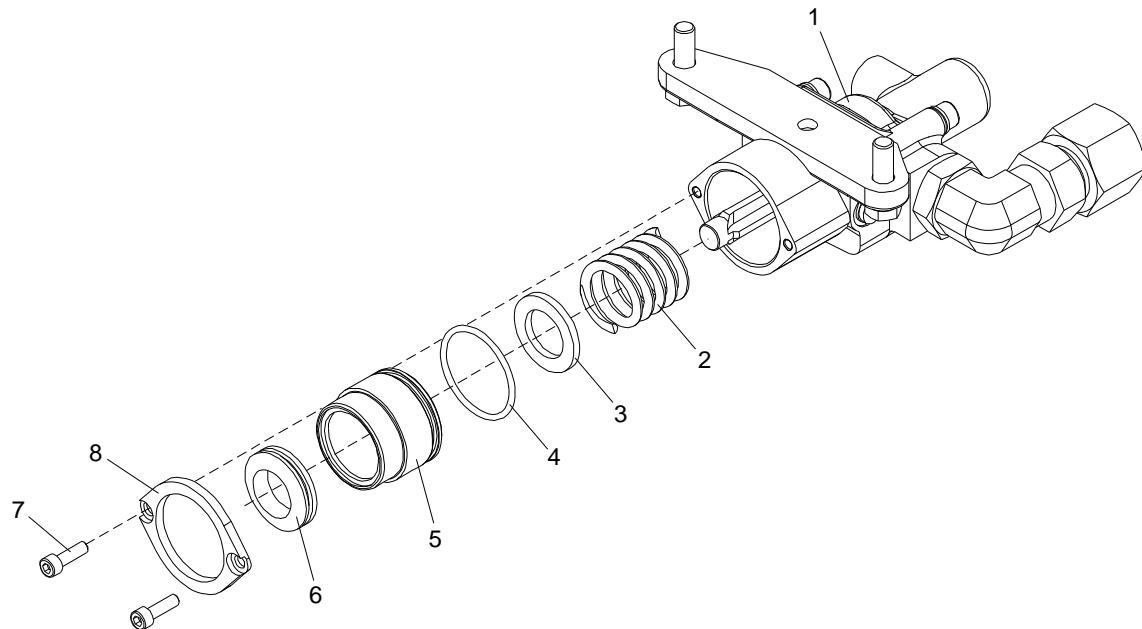

Figure 7-28: Replacement of MRP Front Seal Parts
1. Remove the screws (7) and securing washer (8). See Figure 7-28.
2. Pull out the seal holder (5), spring (2) and lock ring (3).
3. Remove the seal (6) and O-ring (4) from the seal holder (5).
2. Fit the seal (6) and O-ring (4) to the seal holder (5). Fitting can be made easier with soapy water. See Figure 7-28.
3. Fit the lock ring (3) and spring (2) to the seal holder (5) and fit it to the MRP valve (1).
4. Mount the securing washer (8) and screws (7).